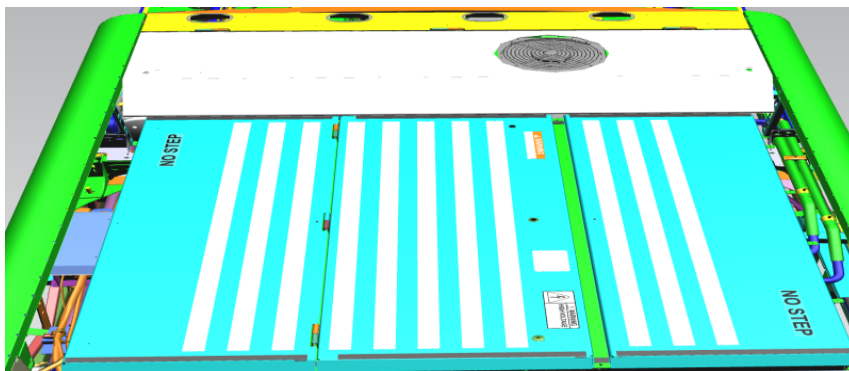

Figure 7: ESS HVAC Location
32. Locate the ESS HVAC assembly located on the roof of the bus as shown in Figure 7